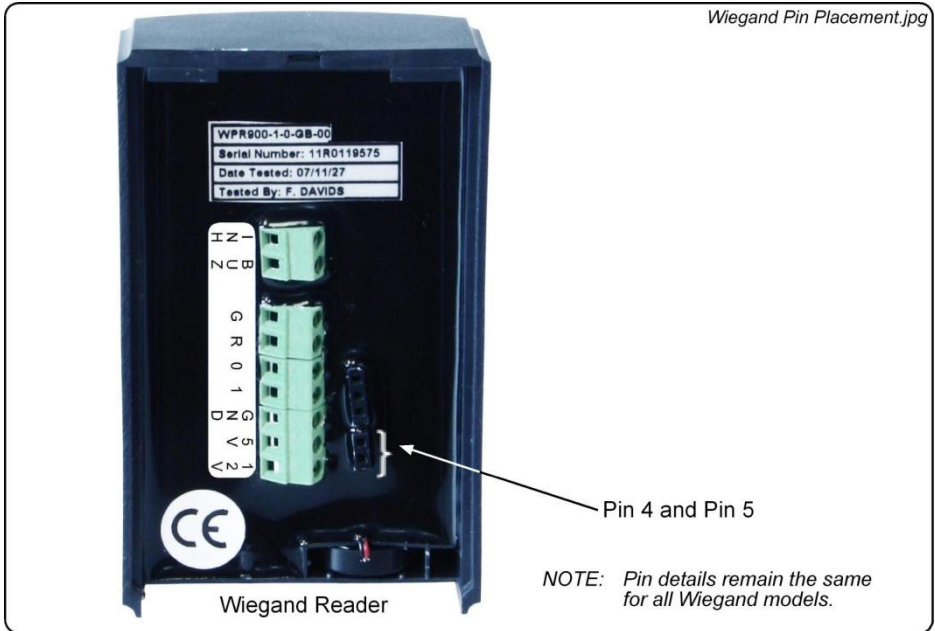

Figure 6: Wiegand Pin Placement
2. Short circuit Pin 4 and Pin 5 (as shown in Figure 6) using the 2-Way Programming Pin supplied.